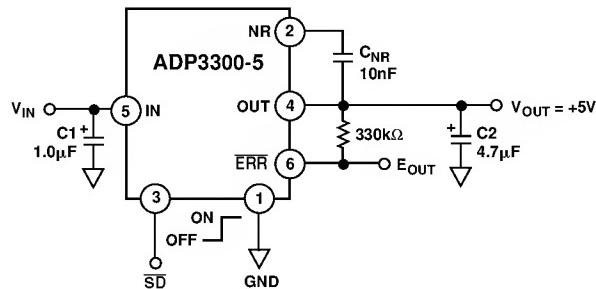

Figure 21. Noise Reduction Circuit
A noise reduction capacitor (C_{NR}) can be used to further reduce the noise by 6 dB–10 dB (Figure 21). Low leakage capacitors in the 10 nF–100 nF range provide the best performance. For load current less than 200 µA, a 4.7 µF output capacitor provides the lowest noise and the best overall performance. Since the noise reduction pin (NR) is internally connected to a high impedance node, any connection to this node should be carefully done to avoid noise pickup from external sources. The pad connected to this pin should be as small as possible. Long PC board traces are not recommended.